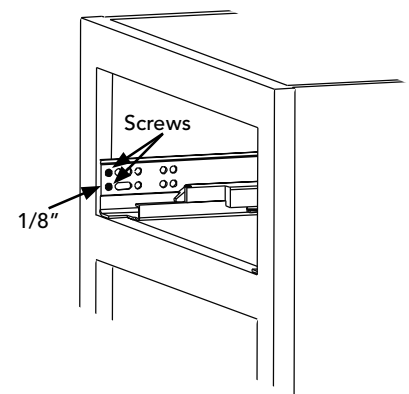

FIG. E-1
Attach both the left and right Blum slides to the frameless cabinet using (3) #8 x 5/8" wood screws for each side. Make sure the front of the slide is set back 1/8" from the front edge of the cabinet (See Fig E-1 & E-2).